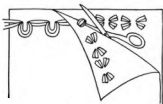

FIGURE 89
**20. Tailor's Tacks** (Figure 89). — Tailor's tacks are used to mark seams and perforations. They are made before removing the pattern from the material. Insert the needle, threaded with a double thread, into the material at the marking on the pattern and take a tiny stitch. Take another stitch on top of the first, allowing the second stitch to form a  $\frac{1}{2}$ -inch loop, and cut the thread. If the markings are close together, the thread need not be cut after each tack is made but may